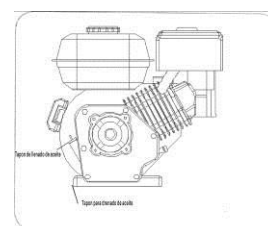

Figure 25
2. Unscrew oil fill cap from oil filler tube and wipe dipstick clean. See Figure 25.
1. Locate the oil drain plug, See figure 25.
3. Clean area around oil drain plug, see Figure 25.